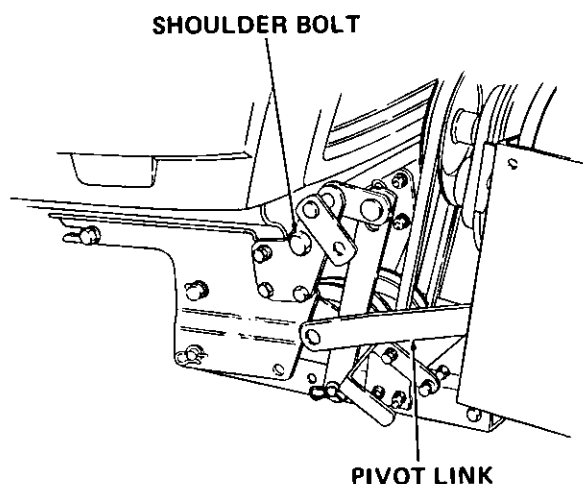

Figure 19
- a. Remove shoulder bolt, lock washer and hex nut from top holes in undercarriage. Refer to Figure 19.